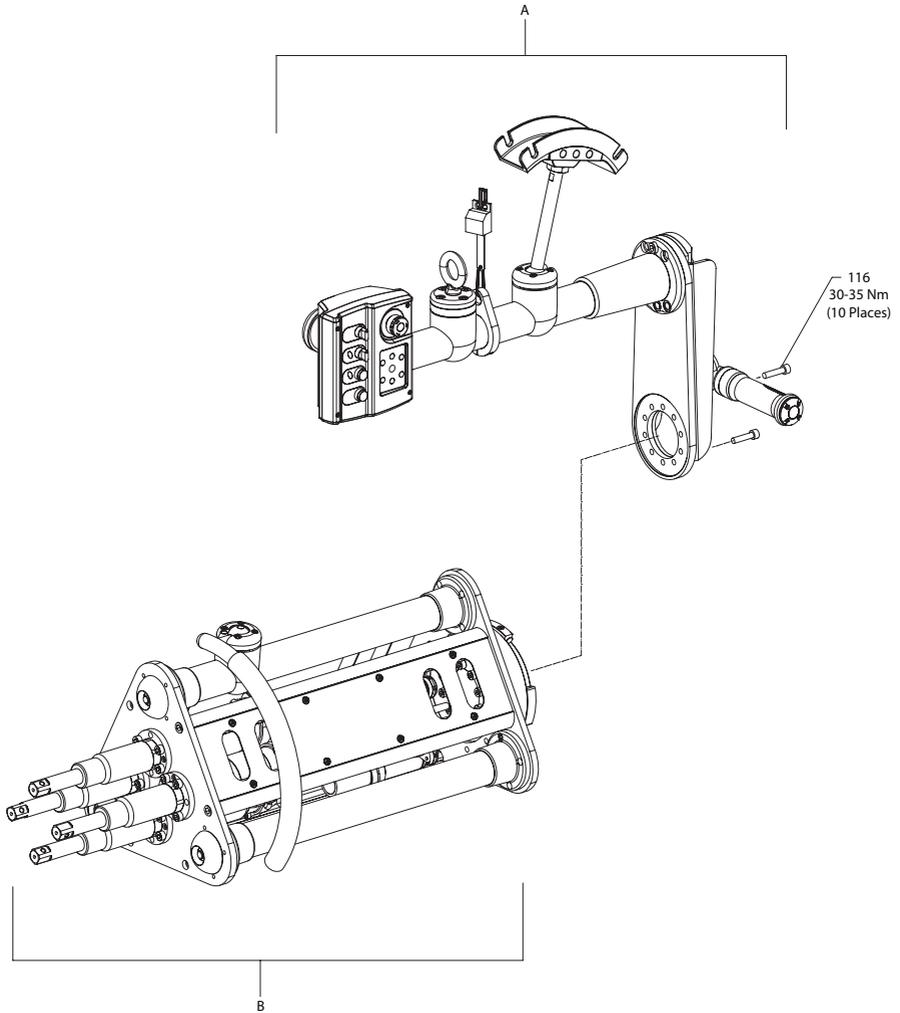

Figure 6
Assembly steps for Figure 6, 7 & 8
1. Align assembly in A with B as shown in Fig 6.
2. Secure assembly in step 1 with fastener Cap Head Screw (116), apply serviceable loctite to fasteners Cap Head Screw (116).
Assembly steps for Fig 6, 7 & 8 (Continued...)
21. Assemble bearing assembly Small Bearing Assembly/Large Bearing Assembly (109/109A) and Back Plate for Small Bearing Assembly/Back Plate for Large Bearing Assembly (103/103A) using fasteners Cap Head Screw (116), (apply serviceable loctite to fasteners) as in Figure 6.